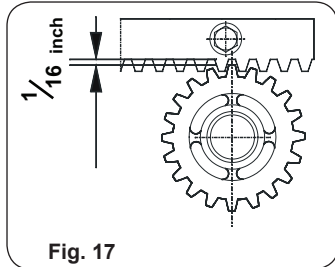

Fig. 17
- When the rack has been installed, to ensure that it meshes correctly with the pinion, lower the gearmotor position by about 1/16 inch (Fig. 17).